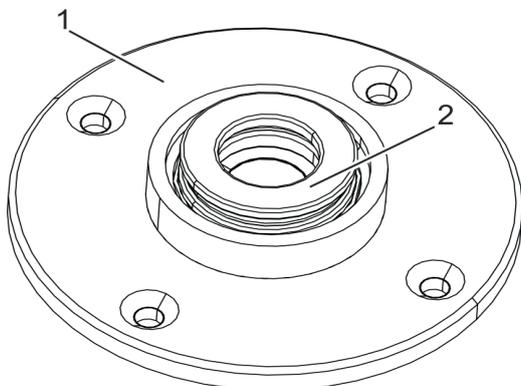

Fig. 85 Floor bearing
7. Insert the floor bearing (Fig. 85/2) into the bearing shell (Fig. 85/1) according to the manufacturer's instructions provided and lubricate it.